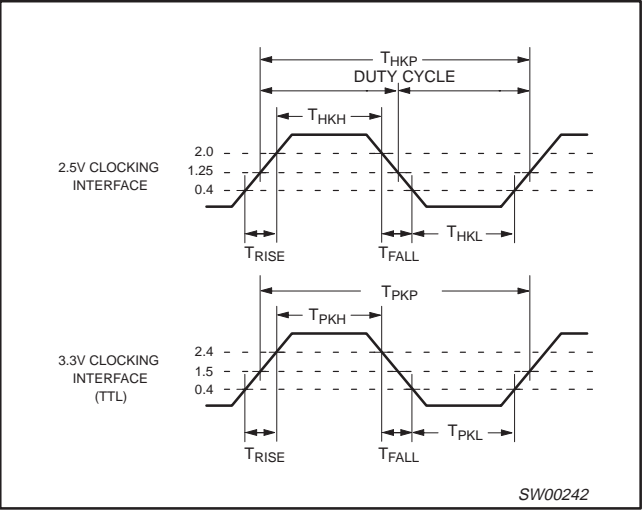

Figure 3. 2.5V/3.3V Clock waveforms
1. See Figure 3 for measure points.